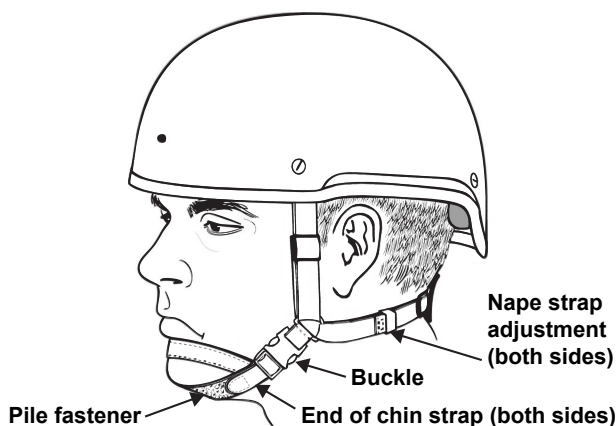

Figure 18. Helmet with X-style Retention
1. Referring to **Figure 18**, don the helmet, ensuring that the helmet rests just above the eyebrows.